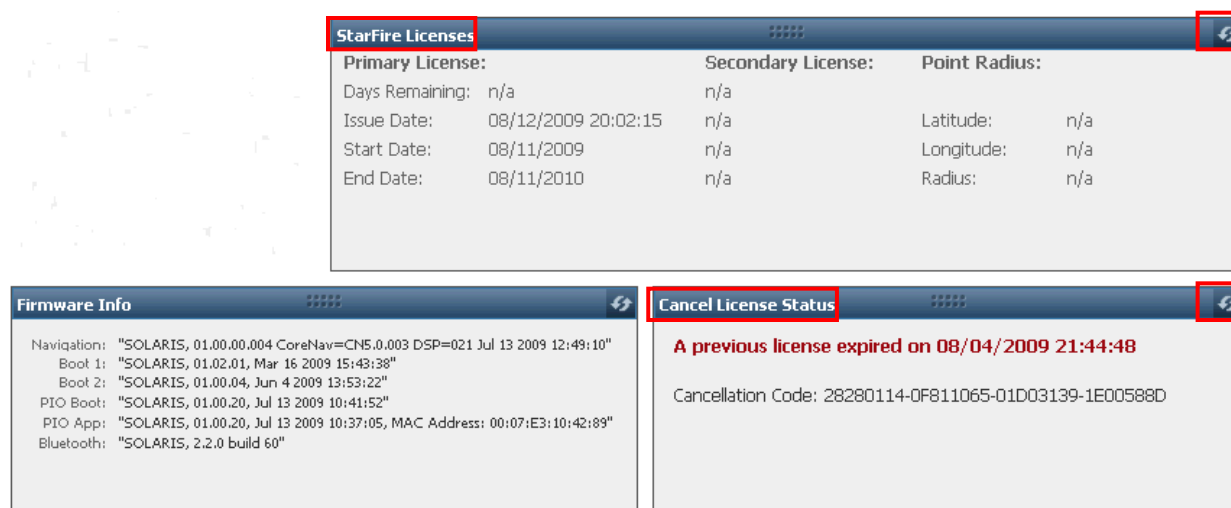

Figure 113: Receiver Options Tab – StarFire Licenses
⚠ Click (refresh) on both the *StarFire Licenses* window and the *Cancel License Status* window (see Figure 113) to view the current output data.
This window provides the history of the last StarFire license cancellation and a cancel code to affirm the cancellation of the last StarFire license before the expiration date (see Figure 113). Refer to the below section, *How to Cancel StarFire License*, below.
2. View the *Cancel License Status* window on the *Receiver* tab to confirm the StarFire license cancellation. The window also displays a cancel code to affirm the cancellation of the StarFire license before the expiration date (see Figure 113).